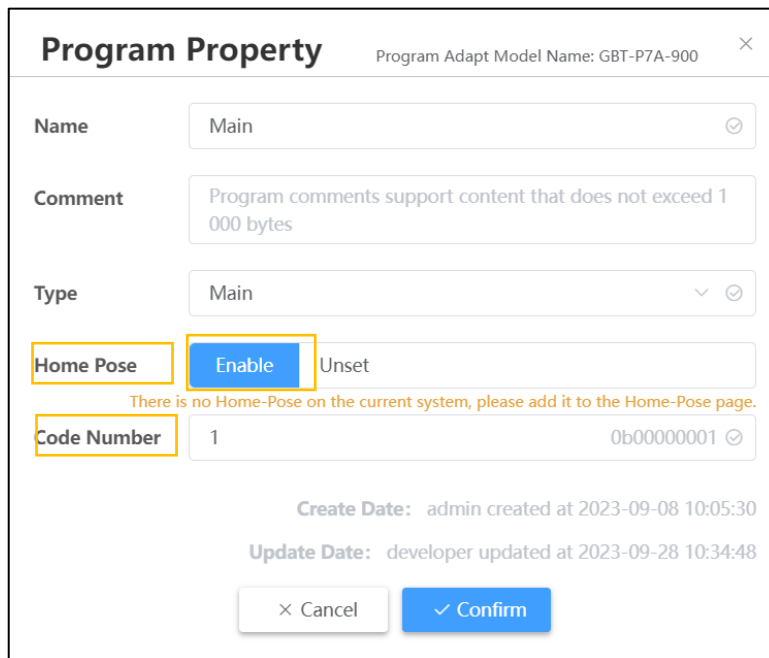

Fig. 4.49 Program Property Window
1. When the program type is selected as Main, the functions of "program start point" and "program number" are additionally shown on the program property interface. The programmer is allowed to choose whether to disable the "Program Start Point" function as shown in Fig. 4.49. Please refer to Section 4.3 for details.